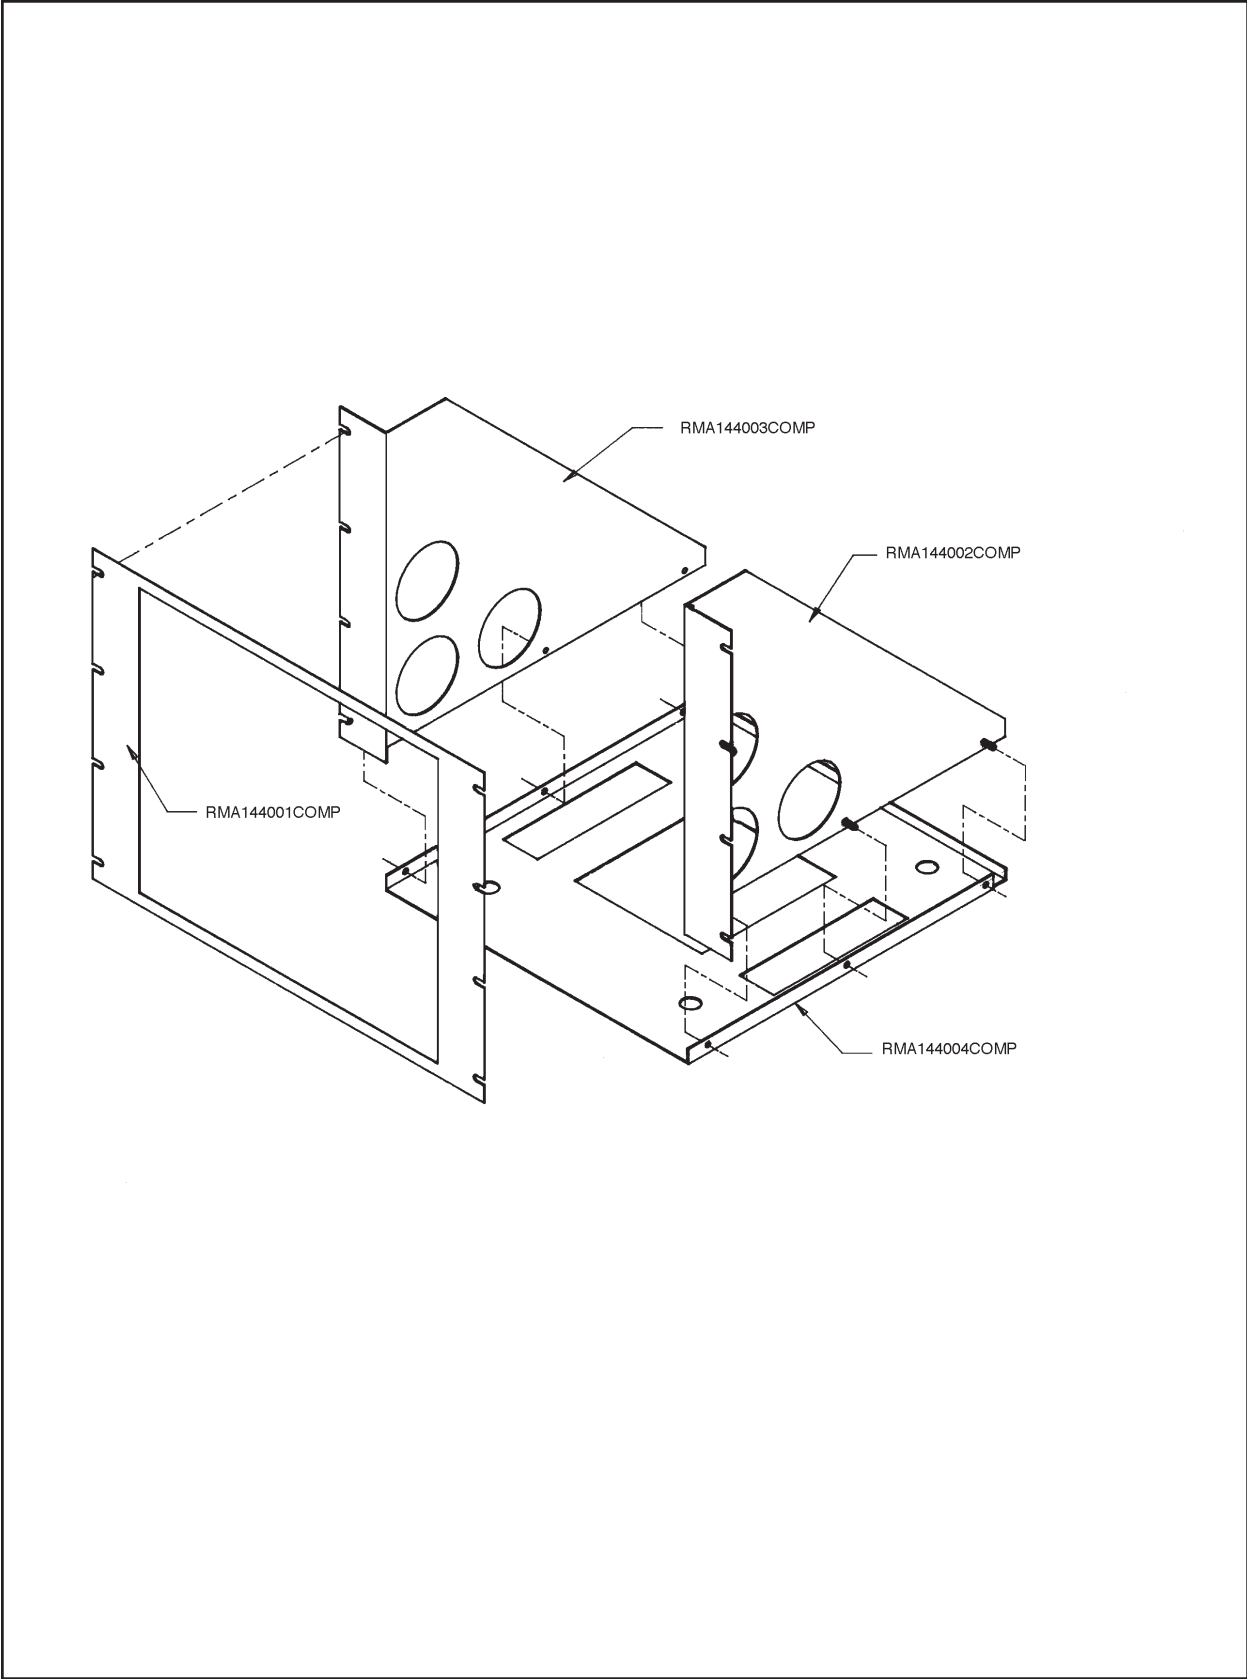

Figure 2. RMA14 Rack Kit Assembly
1. Assemble the rack as shown in Figure 2 using the supplied hardware.